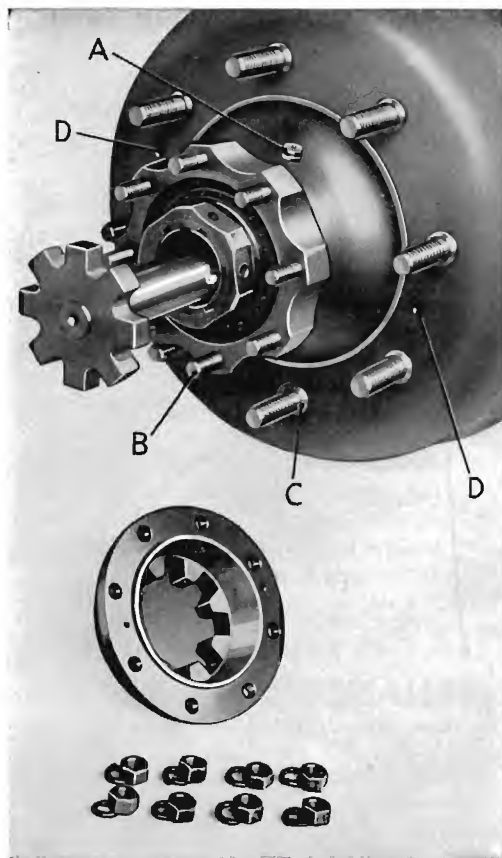
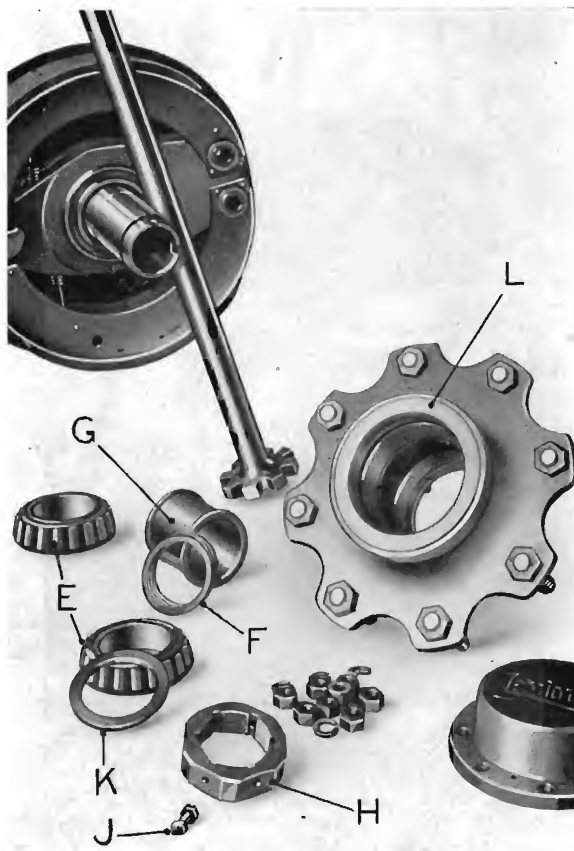

Fig. 1.
Fig. 2.
Remove the nuts from the studs (B), Fig. 1, and draw off the hub cap by screwing jacking bolts into the tapped holes provided; the axle shaft can then be withdrawn. When replacing the hub cap make sure that the joint is in good condition and that the nuts on studs (B) are hammered tight. **They must not be just hand tight.**
The taper roller bearings (E), Fig. 2, on which the hubs rotate are mounted on the axle tube, play in the bearings is determined by the thickness of shims (F) fitted on the end of the distance piece (G). To adjust for end play insert suitable shims (available in three thicknesses) until the end play is approximately .005 in. when the locking nut (H) is tightened solid. This nut has six positions for locking with the locking bolt (J) and four thicknesses of washer (K) are available further to facilitate finding the correct position for inserting the locking bolt. **It is important that the nut (H) be hammered up solid, on no account must it be slackened back to insert the locking bolt.**
Jack up the axle, remove the road wheels, draw the axle shafts and remove the brake drums. The drums and wheels are supported on conical washers (C), Fig. 1, on the wheel studs, these washers can be withdrawn when removing the drum by screwing $\frac{3}{8}$ in. B.S.F. setscrews into the tapped holes (D). Remove the locking bolt (J), Fig. 2, and unscrew the nut (H). Draw off the hub together with the front bearing and outer race of the rear bearing. If new bearings are required the outer races can be knocked out of the hub and the new ones pressed in, the inner races are an easy fit on the axle tube. Renew the oil seal (L) complete if grease is reaching the drums or the seal is damaged.